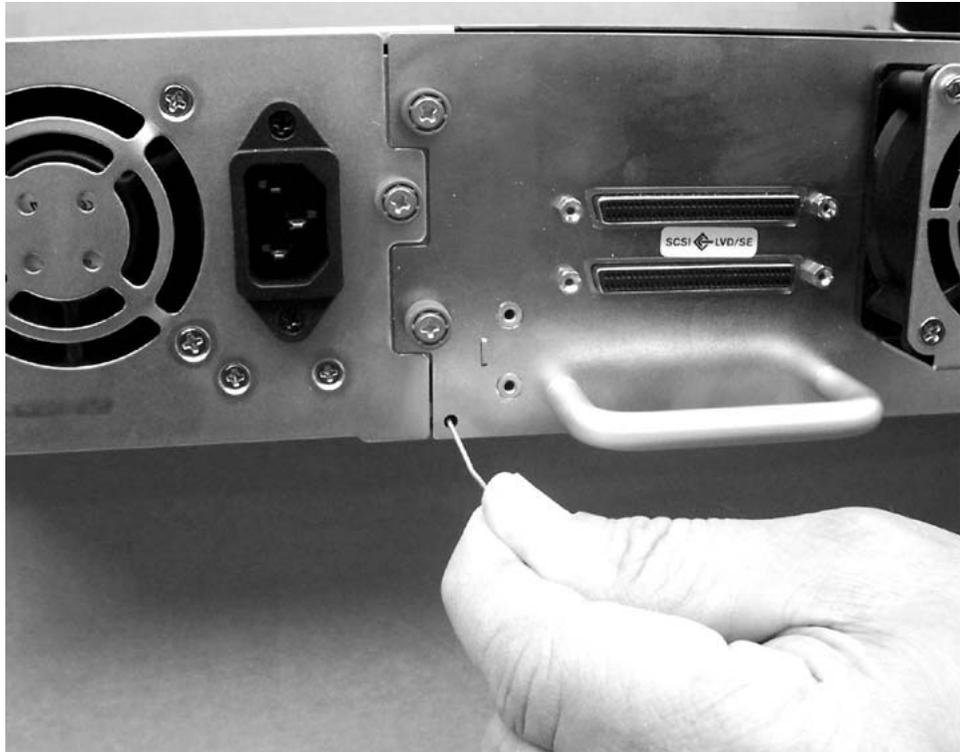
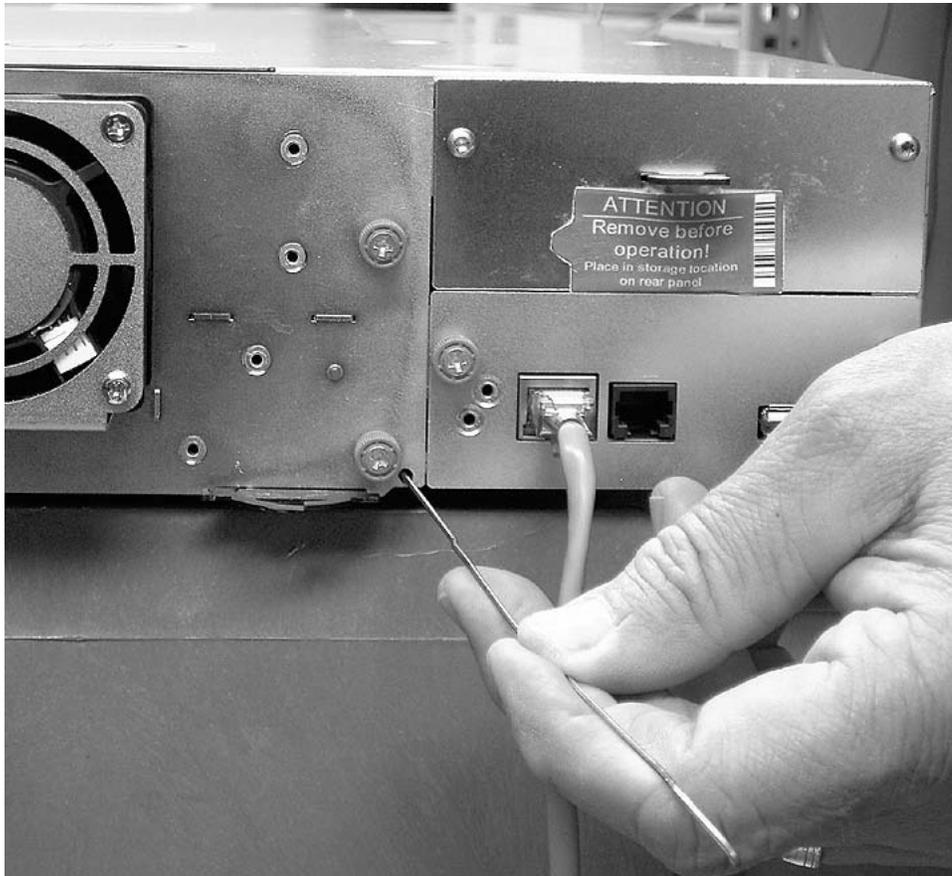

Figure 10-24. Access hole for the left magazine (facing rear of library)
Figure 10-25. Access hole for the right magazine (facing rear of library)
- a. Find the access holes for the right and left magazines (see Figure 10-24 on page 10-25 and Figure 10-25 on page 10-26).